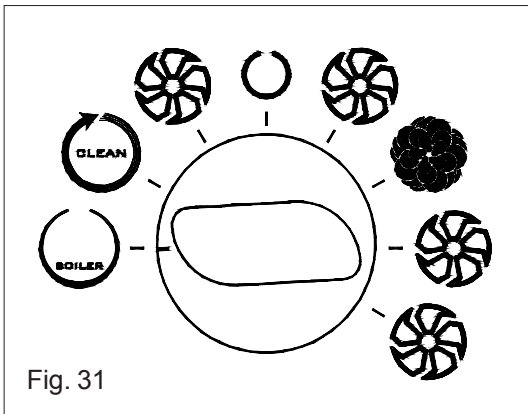

Fig. 31
- Turn the knob to the position shown in Fig. 31.